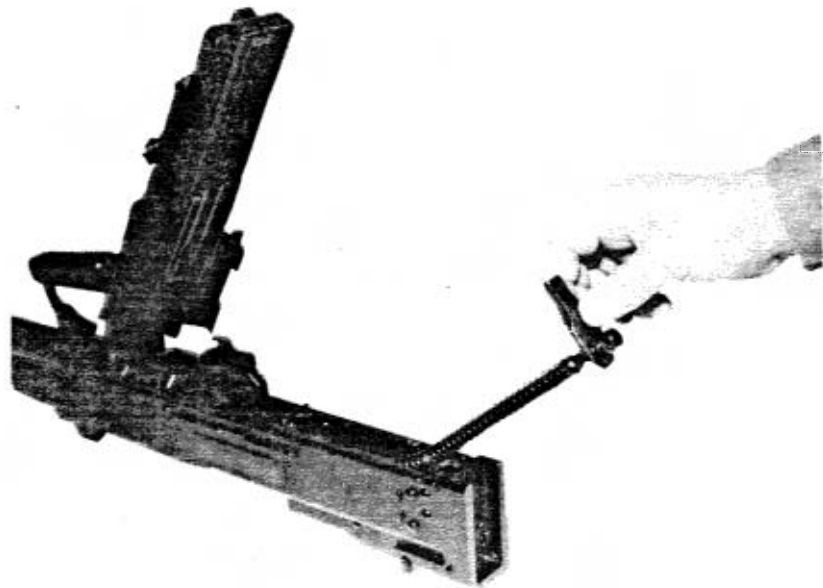

FIG. A-5. RECEIVER MAIN SPRING
- d. To remove the guide rod and the main spring, hold the weapon with the left hand and push the guide rod with the right hand until its lug is disengaged from the hole on the rear receiver wall. Lift the rear of the guide rod and remove it together with the receiver main spring (Fig. A-5). Detach the main spring from the guide rod.